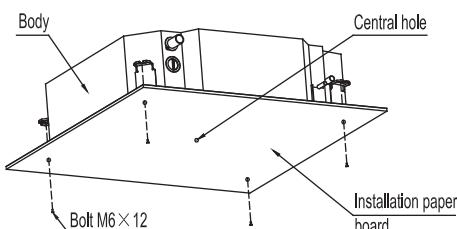

Fig.5-6
- After installing the body, please fasten the installation paper board onto the air conditioner with bolts(M6X12) to determine in advance the sizes and positions of the hole opening on ceiling.(Refer to Fig.5-6)